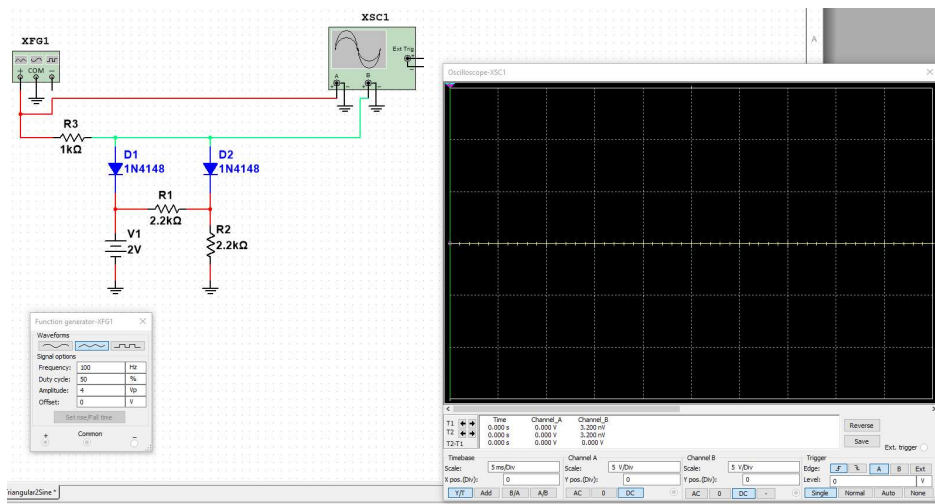

FIGURE 2 –
2. Connect a function generator on V_i and adjust it to a symmetrical triangular wave of frequency 100 Hz, amplitude 4 V and 0 DC–offset. Connect channels A and B of the oscilloscope on signals V_i and V_o respectively as shown in figure 2.